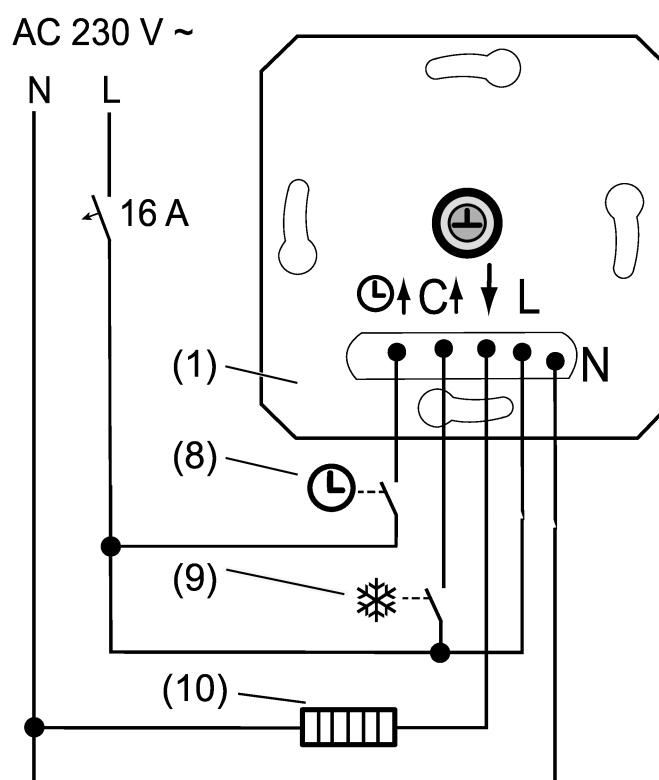

Figure 2: Connection example of the insert
- Connect the electrical heating device (10) or cooling device to the insert (1) according to the connection diagram (see figure 2). Observe conductor cross-sections (technical data)